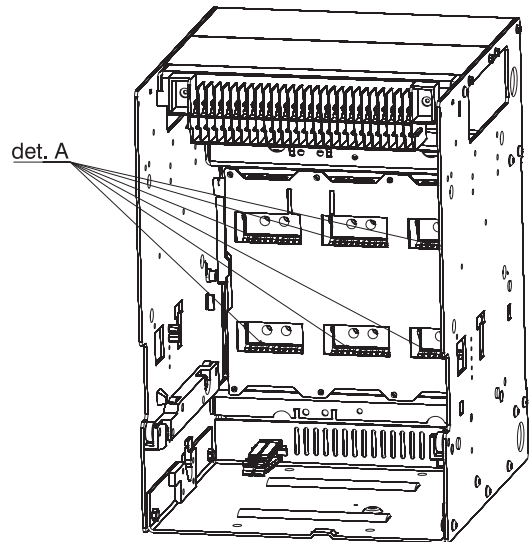

Figure 38.
- Check the circuit-breaking couple for damage (for the extractable switch, see feature A, Figure 38).